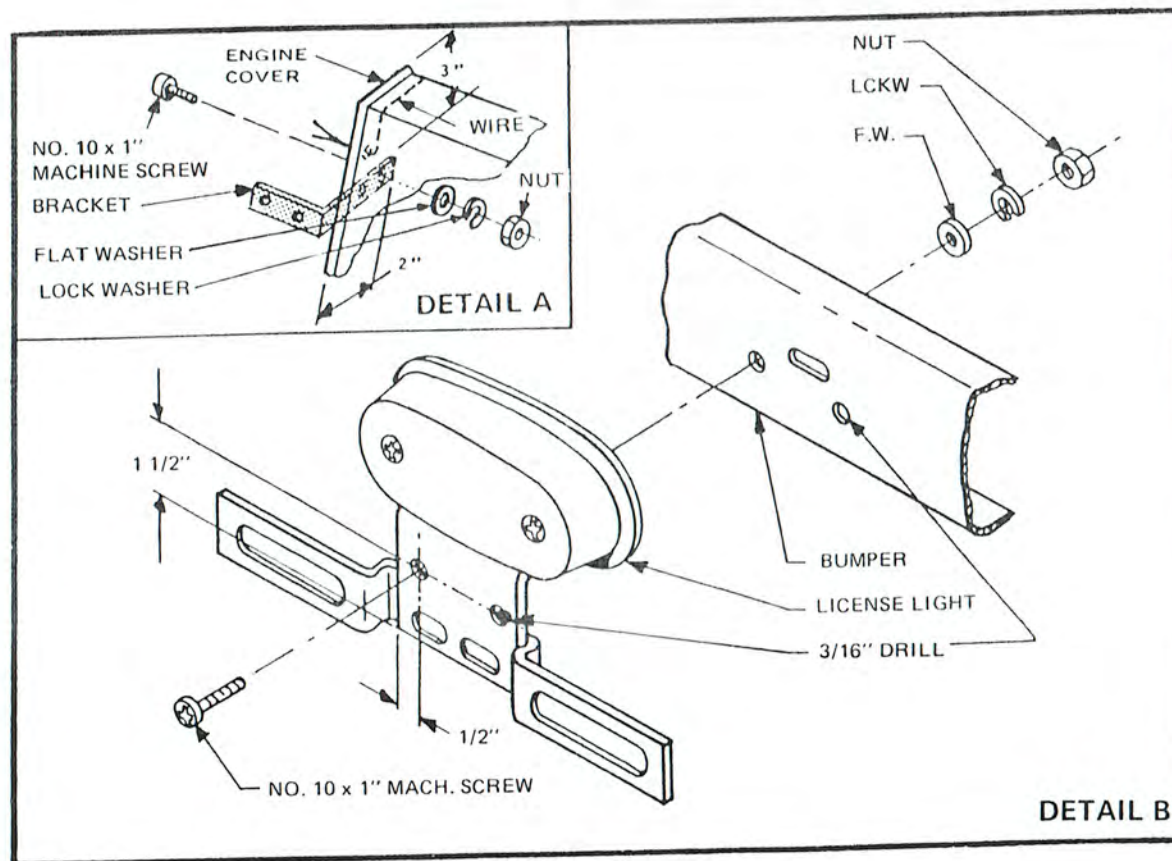

Figure 66
- The license light can be mounted in one of two places. On the engine cover with the bracket supplied or on the bumper. For engine cover mounting, bolt license light to bracket using No. 10 x 1" machine screws with flat washers, lock washer and nut. Line bracket up on left side of engine cover. Measure 3" down from top and 2 1/2" in from the edge. Mark and drill 2 holes, 3/16", through holes in bracket. Secure to cover using No. 10 x 1" machine screws with flat washer, lock washer and nut. Run wires (hot and ground) up body and down into cover. (Figure 66)
- For bumper mounting, drill two 3/16" holes in license light as indicated. (Figure 66)